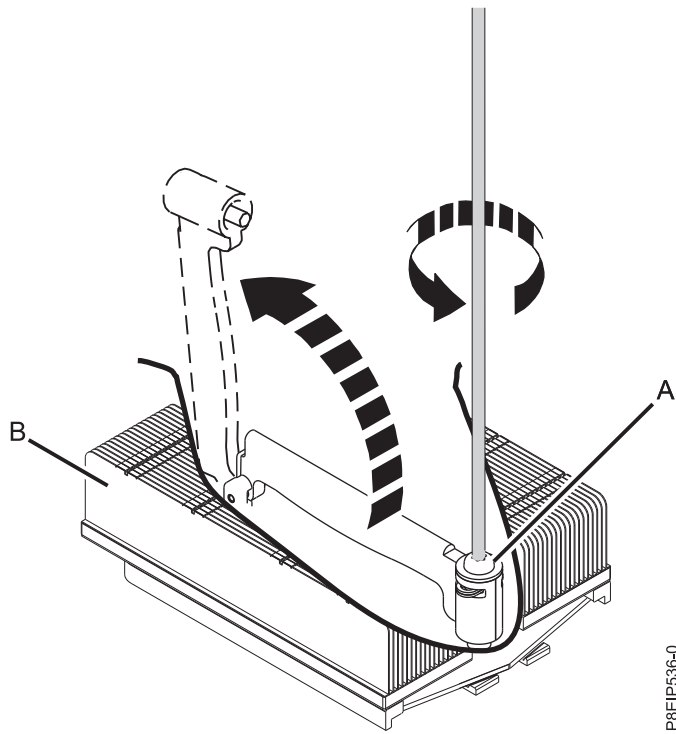

Figure 36. Loosening heat sink load arm screw
3. Loosen the load arm screw (A) of the system processor heat sink (B) that you are removing with a #3 Phillips screw driver. The load arm pivots up in the direction that is shown in Figure 36 on page 35.